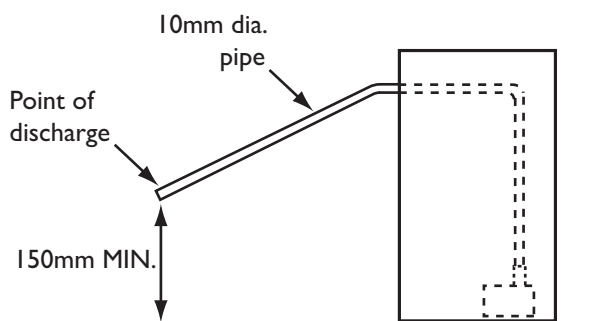

Fig. 16
9. If the entire length of discharge pipe is 10mm diameter pipe the **point of discharge** into a drain or similar must be a **MINIMUM** of 150mm above the base of the boiler to prevent syphonic action emptying the sump (Fig. 16).